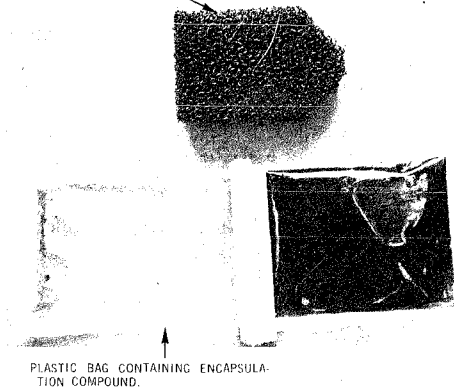

Fig. 1 - Contents of the Z Encapsulation Kit
- (a) Kit Encapsulation Wire Buried - Z Used for encapsulating the connected conductors of the buried wire. See Fig. 1.